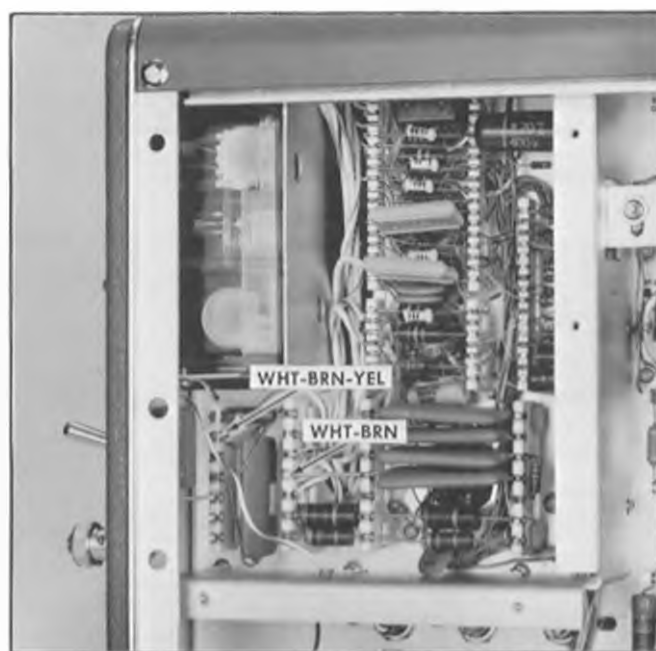
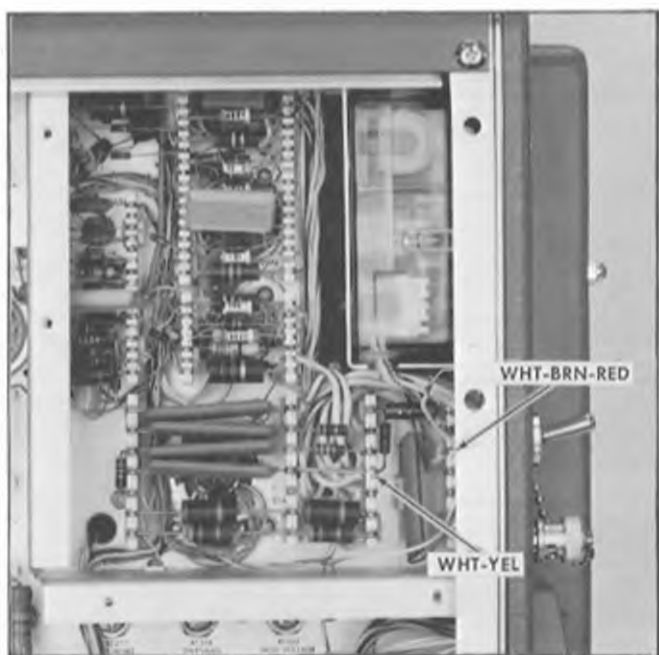

Fig 4-8. CRT filament lead locations (Upper Beam).
Fig. 4-7. CRT filament lead locations (Lower Beam).
7. Unsolder 2 wires from each high voltage compartment, as shown in Fig. 4-7 for the Lower Beam, and Fig. 4-8 for the Upper Beam. These wires are the filament leads to the CRT and are color coded as shown on Fig. 4-7 and 4-8.
9. The new transformer may be installed by reversing the procedures. Refer to the color coding information shown in Figs. 4-7, 4-8 and 4-15.